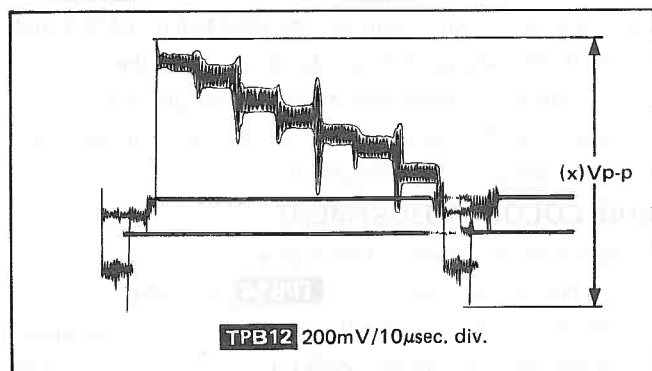

Fig. 41
- Measure and record the amplitude of the waveform **TPB12** as shown in Fig. 41.